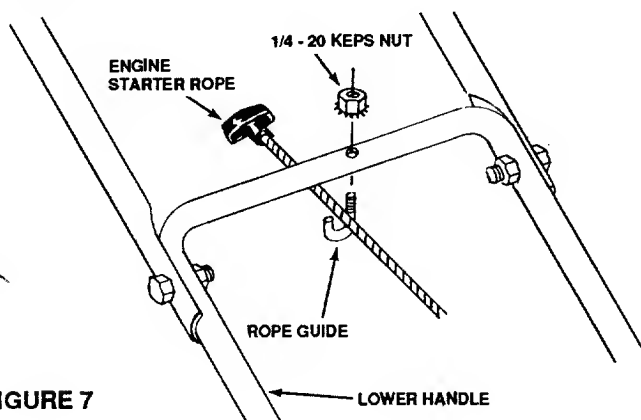

FIGURE 7
1. Attach starter rope to lower handle with supplied rope guide (J-bolt) and 1/4-20 hex keys lock nut as shown See Figure 7. NOTE: If additional rope is required to complete assembly, pull back engine control bail lever on upper handle and hold while slowly pulling additional rope out of engine as needed. Place rope guide around starter rope and through lower handle. Tighten securely with lock nut.